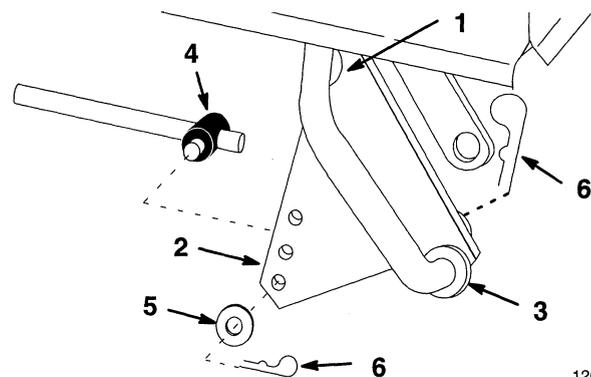

Figure 11
9. Position lift plate notch around left side lift rod and slide lift plate onto attachment lift arm (Fig. 11). Secure with hairpin cotter at lift arm.
10. Connect lift rod trunnion at one of the holes in the attachment lift plate with washer and hairpin cotter (Fig. 11).